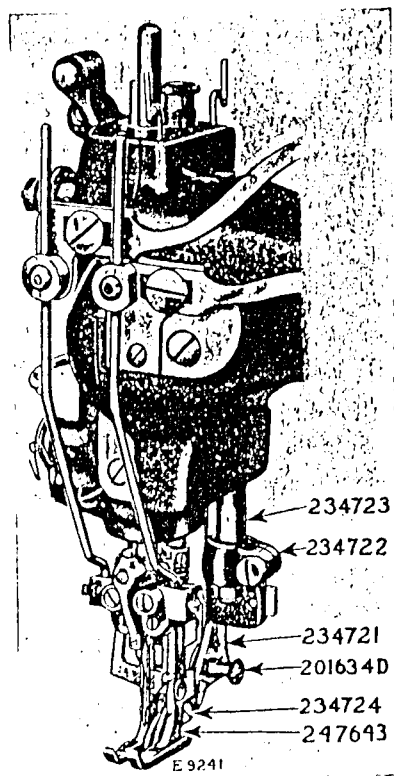
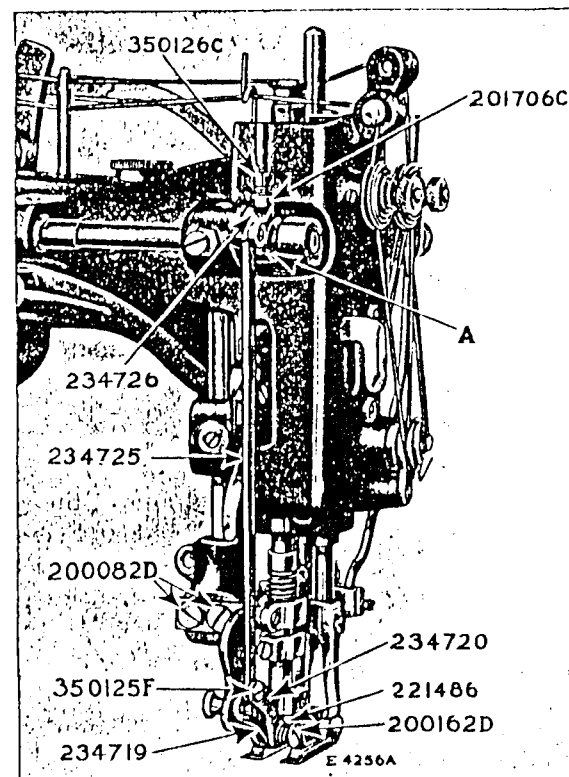
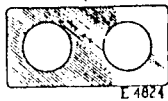

Fig. 20
Fig. 21
Fig. 22
1. Remove the regular Presser Foot and Presser Bar Guide from the machine and fasten the Presser Bar Guide and Support 234723, Fig. 20, and Presser Foot 247643, Fig. 20, in position on the machine as shown in Fig. 20.
3. Place Picot Edge Cutting Blade Arm Bracket 234722, Fig. 20, in position on Presser Bar Guide 234723, Fig. 20.
5. Place the Attachment (with Thumb Nut 201634D, Fig. 20, at the back end of slot) in position by inserting the Knives in between the Presser Foot Shoes, and fasten the Attachment on the Arm Bracket 234722, Fig. 20, with the two screws 200082D, Fig. 21.
6. Loosen the Pinch Screw in the Arm Bracket and raise the Attachment until the center of the Knife Fulcrum Stud 234724, Fig. 20, is  $\frac{7}{16}$ " above the top of the Throat Plate. Place a scale or straight edge across Attachment Arm 234721, Fig. 20, from front to back, and line up parallel with the presser foot, the cutting edges of the knives to be in line with the center of the Piercer, then tighten the Pinch Screw.
7. Remove the Set Screw in the Rock Shaft Collar (A, Fig. 21).
8. Place the Operating Lever 234726, Fig. 21, in position on the Rock Shaft Collar (A), using Screw 350126c, Fig. 21, in place of Set Screw and Check Nut 201706c, Fig. 21, to hold the Lever and Rock Shaft Collar in position.
10. Fasten the Operating Lever with the Screw and Nut, using care to have the point of the upper Knife Blade 234720, Fig. 21, just above the Throat Plate.
11. Loosen the Thumb Nut 201634b, Fig. 20, and pull it forward until the point of the lower Knife Blade 234719, Fig. 21, rests on the Throat Plate, then tighten the Thumb Nut. The point of the knife should be just back of the needle hole.
The knives should not cut into the first bar back of the needles as this bar is required to hold the fabric in forming the hemstitch. If the knives cut into the first bar, which may occur when using a long stitch, there are two shims 234735 (Fig. 22) which have been provided to insert between 234721 and 234722 (Fig. 20) to position the knives further back so that they will cut the second bar only.
13. When it is desired to do straight hemstitching with the Attachment in place, loosen Thumb Nut 201634b, Fig. 20, and push it to the back end of the slot, then tighten it. This will raise the lower knife so as to permit the fabric to pass under it.
Remove the Cap Screw 200162b, Fig. 21, together with Spring 221486, Fig. 21, and Hinge Screw 350125f, Fig. 21, push back the knife blade Hinge Stud 234724, Fig. 20; both knife blades can then be easily removed or replaced.